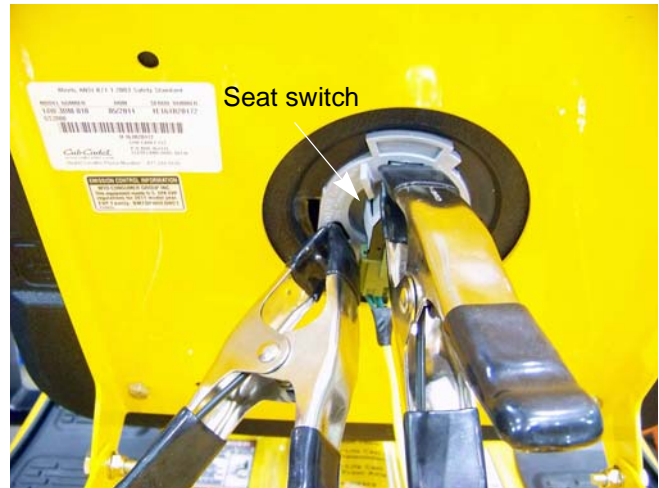

Figure 5.6
2. By-pass the seat safety switch. See Figure 5.6.